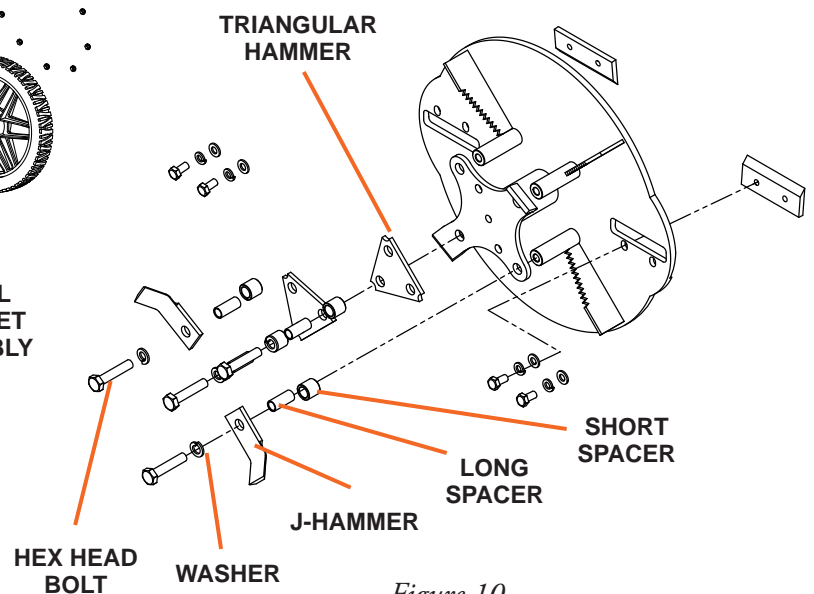

Figure 10
6. Note the assembly sequence of the hardware used to secure the hammers. Using a 17mm wrench or socket remove the hex head bolts and related hardware (see Figure 10).